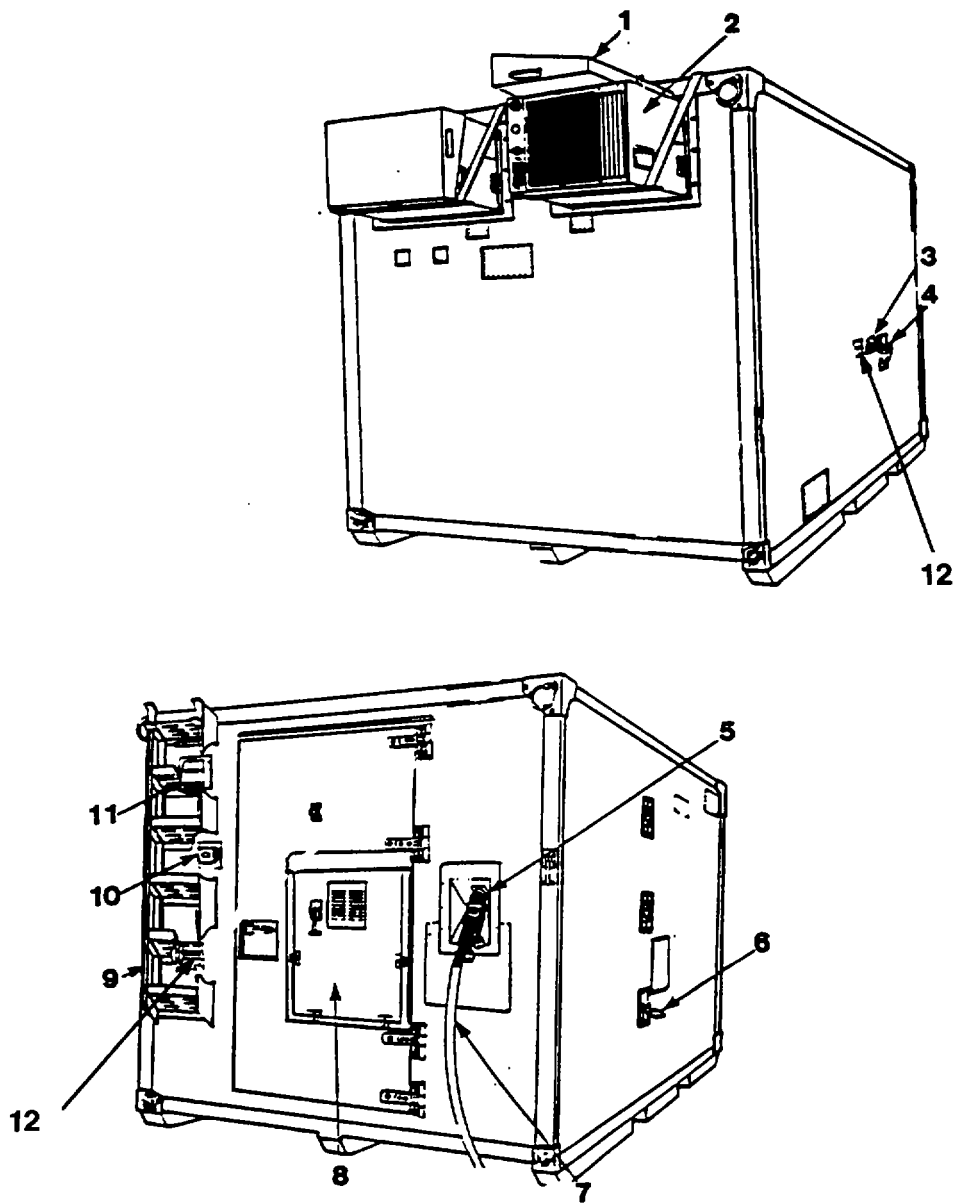

Figure 1-2. Location and Description of Major Components, Press Shelter, Exterior
1-11. LOCATION AND DESCRIPTION OF MAJOR COMPONENTS. Left and right orientation is determined by facing the shelter personnel door. Walls where air conditioners are located are considered front of shelter. Paragraph numbers below correspond to callouts in Figure 1-2 and 1-3. All equipment is located in its operational position.
a. Press Shelter Exterior. Refer to Figure 1-2 for location of major components.
- (1) Condenser Cover. Protects the air conditioner when not in use and during transit of the shelter.
- (2) Air Conditioner. Provides temperature control for the shelter.
- (J) Water Tank Filler. Provides an outside means of filling water tank.
- (4) Sink Drain. Provides a means of draining sink.
- (5) Main Power Receptacle. Permits supply of power to interior main power service box when power cable is connected.
- (6) Folding Steps. Allows access to roof of shelter.
- (7) Main Power Cable. Used to supply shelter with power from power source.
- (8) Air Filter Weather Cover. Provides access to the removable foam-type air filter.
- (9) Ladder Assembly. Provides a means of entry to shelter when truck mounted.
- (10) Blackout Warning Switch. Activates an interior blackout warning buzzer to warn personnel in the shelter to turn off interior lights before opening door during blackout.